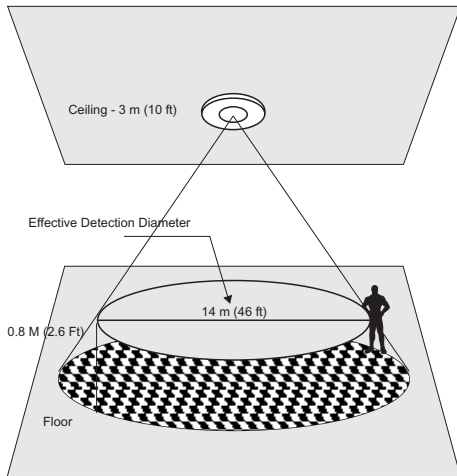
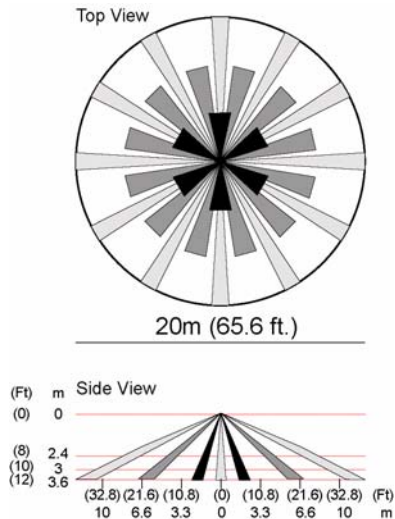

Figure 3 EE1265 detection diameter
Figure 4 EE1265 lens pattern
- The EE1265 can be mounted to a maximum height of approximately 12 feet (3.6 meters). As mounting height increases, distance between detection zones also increases toward the perimeter, and the effects of factors such as floor surface temperature and intruder direction and speed are intensified. This can contribute to reducing speed of detection. Every installation should include a walk test of detection zones, including intrusion paths crossing the edges of the zones. See Figure 3 and Figure 4 for more information.